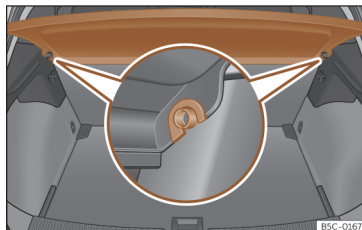

Fig. 118 In the luggage compartment: removing and fitting the shelf.
- Remove the rear shelf from the side supports»» **Fig. 118** by pulling it upwards and then take it out.
- Insert the cover horizontally so that the “recess” fits onto the axis of the supports »» **Fig. 118** and press down until it engages.